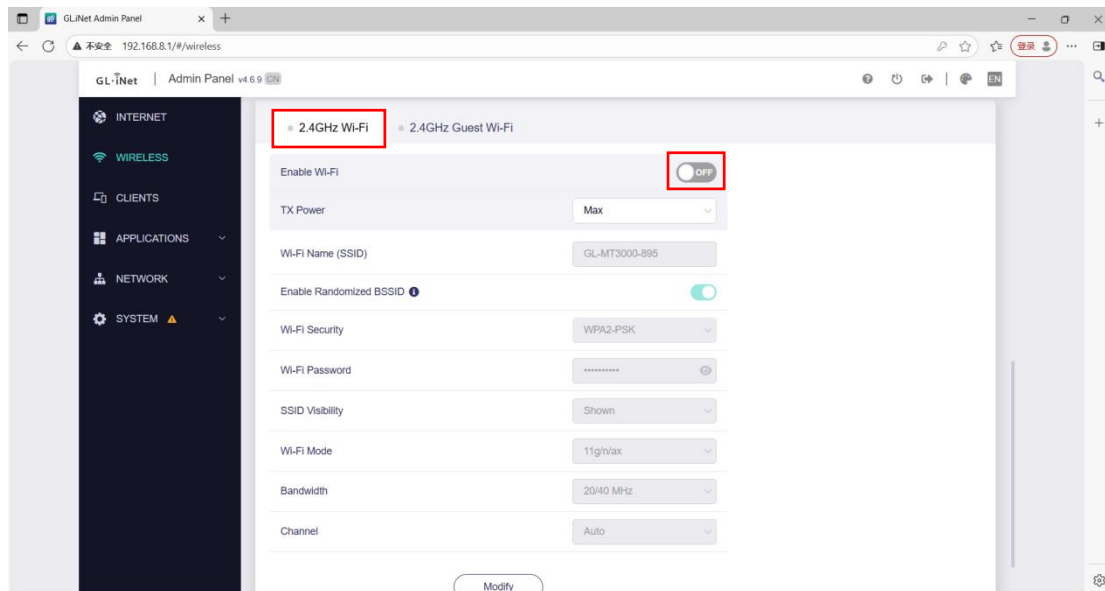

Figure 3-10 Turn Off 2.4GHz WiFi
4. Scroll down to the 2.4GHz WiFi section and ensure it is in the "OFF" state, as shown in Figure 3-10.